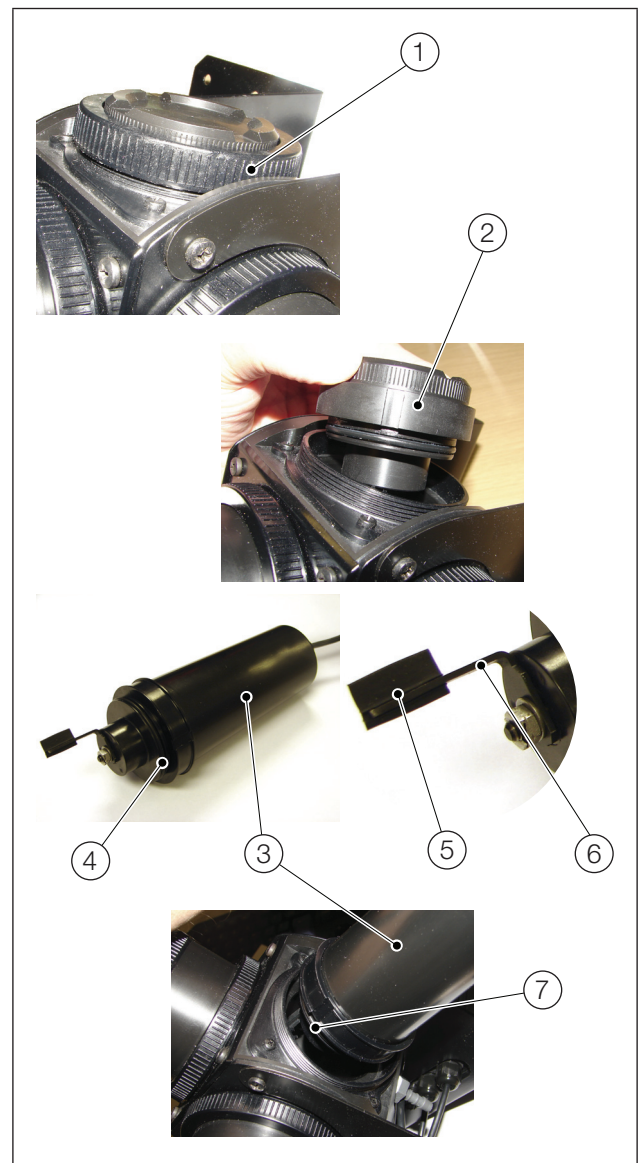

Fig. 3.1 Fitting wiper module
2. Referring to Fig. 3.1:
- a. Remove wiper plug / module retaining collar (1) and retain.
- b. Remove wiper plug (2).
- c. Carefully remove the wiper module (3) from its packaging.
- d. Ensure O-ring (4) is undamaged and located correctly in wiper module groove.
- e. Ensure wiper blade (5) is undamaged and fitted correctly to the wiper arm (6).
- f. Carefully insert wiper module (3) into cell body, ensuring cut-out (7) in wiper module flange engages correctly with locating lug on cell body.
- g. Secure wiper module to cell body with retaining collar (1), tightening retaining collar hand-tight only.